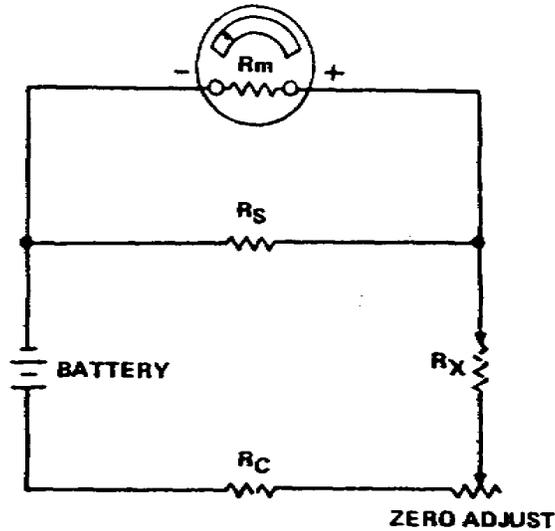
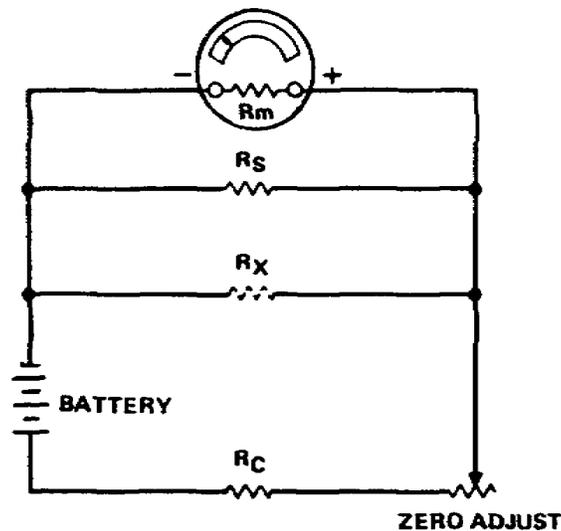

Figure 1-8. Typical ohmmeter circuit
Figure 1-10. A shunt ohmmeter
(3) If you double the meter resistance (increase to 4000 ohms), the error in the voltage reading diminishes to 30 percent (40 volts across R_1). If you increase the ratio between the meter resistance and load resistance even more by increasing the meter resistance you obtain a point where the voltmeter error can be tolerated.
(4) For practical purposes, the voltmeter error can be tolerated when the voltmeter resistance is ten times as great as the resistance across which the voltage is measured.
c. Ohmmeter. The ohmmeter is a device that uses a current-actuated meter and a fixed source of voltage for measurement of resistance (refer to Figure 1-8). It is used for practical work where simplicity, portability, and ease of operation are more important than a high degree of precision. There are two types of ohmmeters, the series type and the shunt type. The series type has the resistance to be measured connected in series with the meter movement. The shunt type has the resistance to be measured connected in parallel with the meter movement.
(2) Since the ohmmeter is calibrated at mid-scale, the mid-scale portion represents the most accurate portion of the scale. However, the usable range extends, with reasonable accuracy, on the high end to 10 times the mid-scale indication, and on the low end to 1/10th of the mid-scale indication.
(3) To extend the usable high range of the series-type ohmmeter, shunt R_s (fig 1-8), can be removed from the circuit, and the value of the series-dropping resistor R_c increased 10 times. This permits a mid-scale reading with a resistance of 10 times R_x . The limitations which prevent a further increase in the usable high range of the ohmmeter are fixed voltage (battery) and the sensitivity (current necessary for full-scale deflection) of the meter mechanism. You can obtain a higher range by increasing the battery voltage or by using a more sensitive meter mechanism. The former method is practical, and is used in some commercial test equipment.
(4) You can extend the usable low range of the ohmmeter by installing meter shunt R_s and decreasing R_c until the current in the circuit and the internal resistance of the battery limit any further extension of the range. Excessive current can extend the low range by decreasing the battery voltage, but this method is not feasible. Instead, a shunt-type ohmmeter is used.
d. The shunt-type ohmmeter (fig 1-10), measures low and medium values of resistance. The shunt-type ohmmeter scale is calibrated in the reverse direction from the series type because full-scale deflection is obtained with test probes open.
(1) Mid-scale deflection occurs when the combination of the meter resistance and the shunt R_s is equal to R_x , the resistance to be measured.
and limiting resistor must be 5000 ohms if we are to obtain full-scale deflection. Full-scale deflection indicates zero resistance, and the meter scale is marked "0" ohms at 1 milliamperere point (fig 1-10). When a resistor (Rs) is placed between terminals T1 and T2, the total resistance of the circuit is increased, and a smaller current flows through the meter.